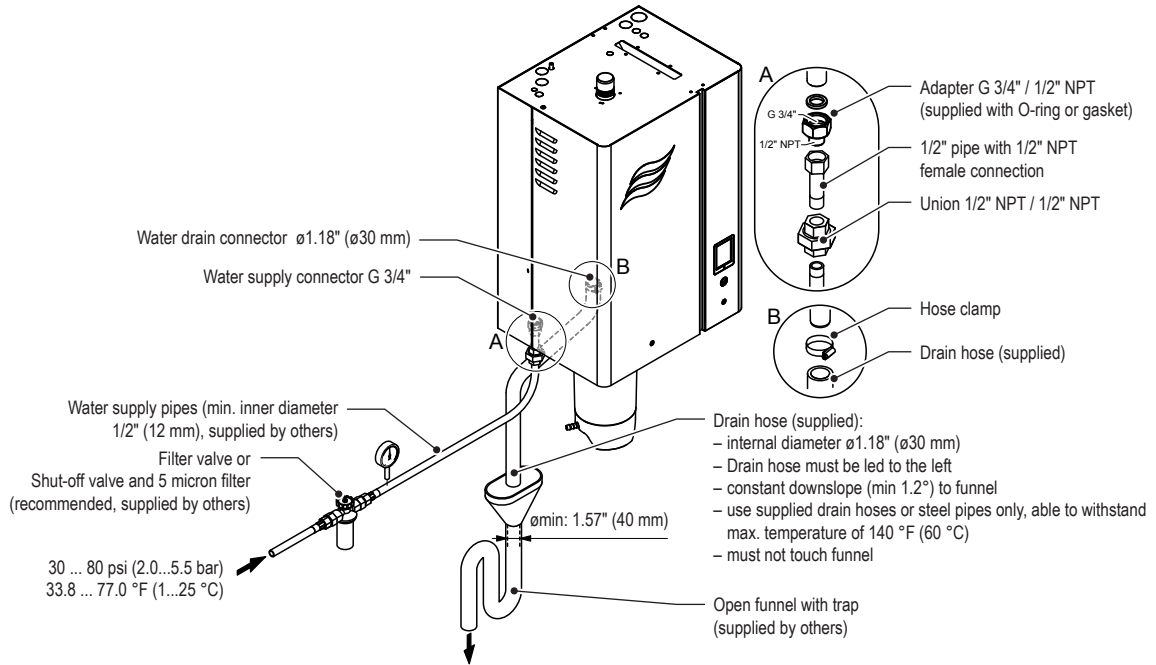
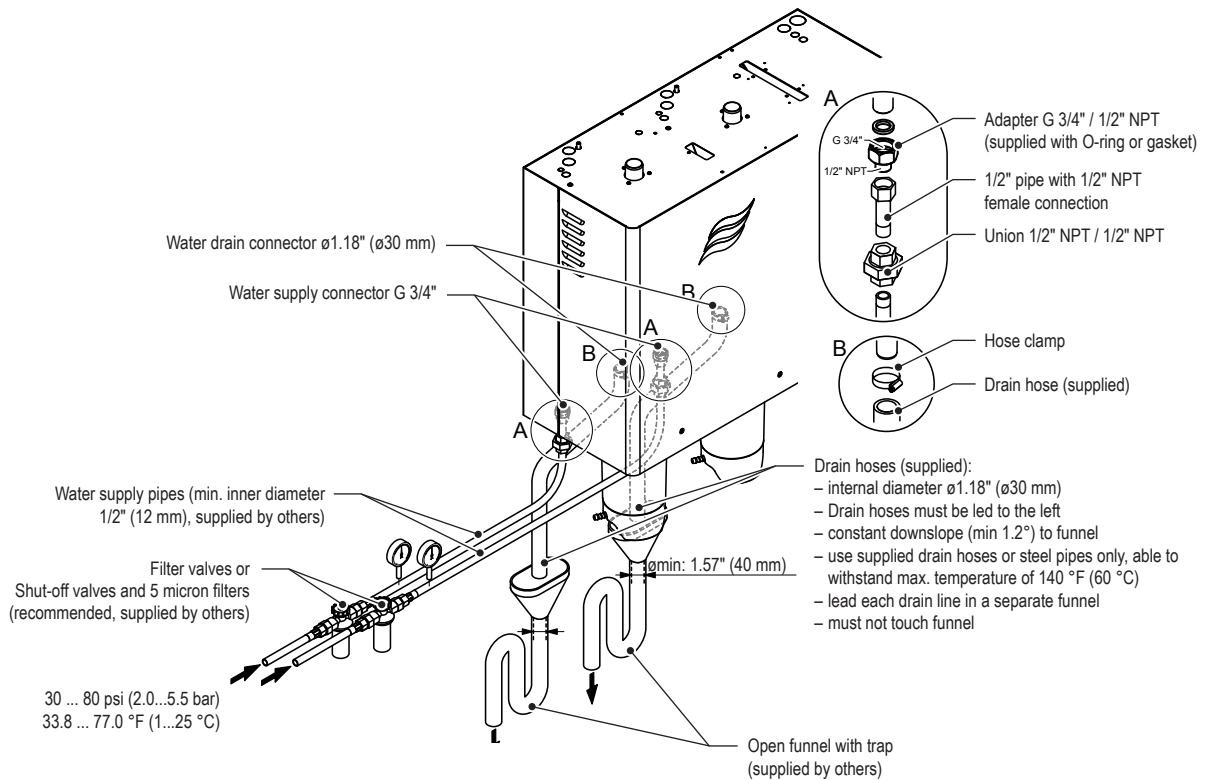
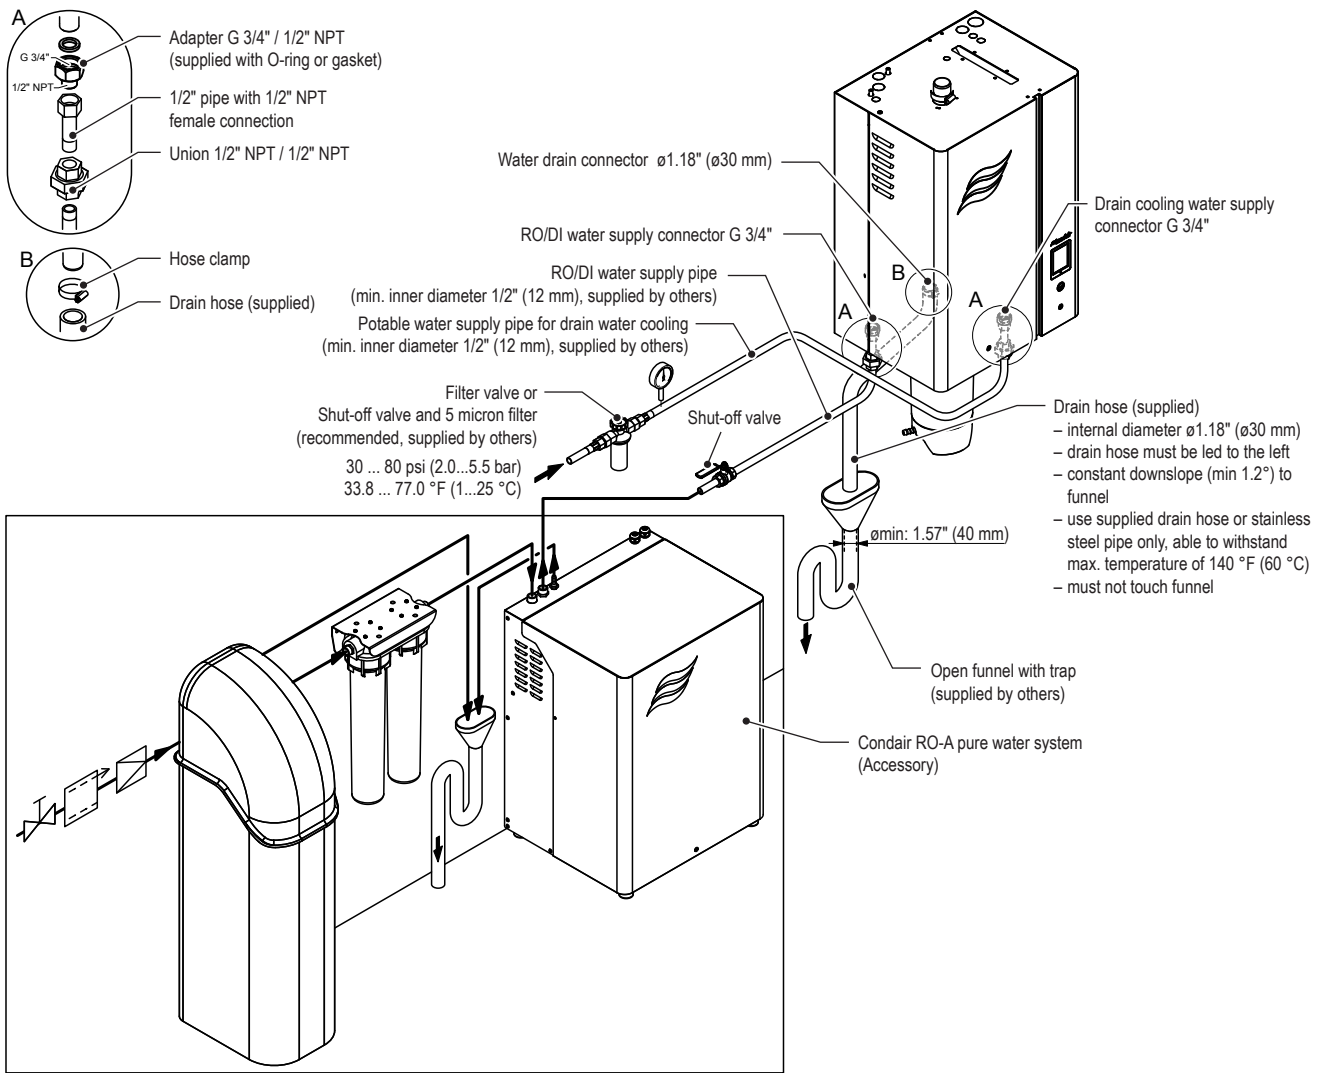
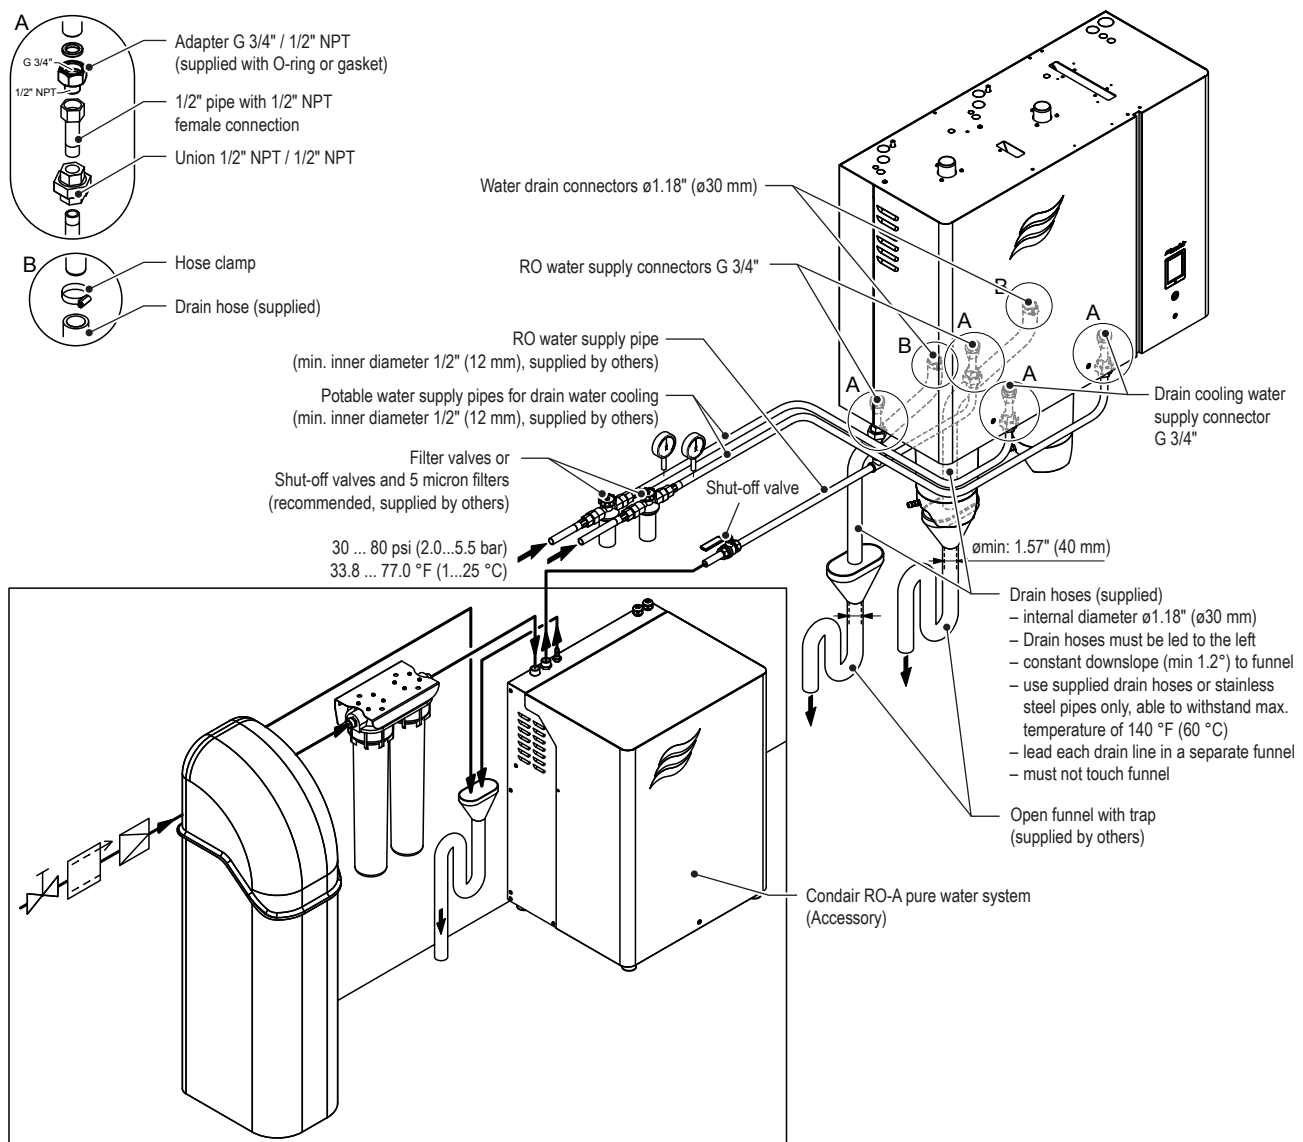

Fig. 17: Overview water installation for single units Small and Medium
Fig. 18: Overview water installation for single units Large
Fig. 19: Overview water installation for single units Small and Medium (with RS-RO option installed)
Fig. 20: Overview water installation for single units Large (with RS-RO option installed)
The water supply is to be carried out according to Fig. 17 and Fig. 18 or Fig. 19 and Fig. 20 and the applicable local regulations for water installations. The indicated connection specifications must be observed.
With the RS-RO option installed the water supply and the drain cooling water supply are to be carried out according to Fig. 19 and Fig. 20 and the applicable local regulations for water installations. The indicated connection specifications must be observed.
- The RO water supply must be connected to the inlet connector(s) according to Fig. 19 and Fig. 20. Use only installation material that is approved for RO or DI water to connect the RO-A pure water system to the Nortec RS. All water supply requirements outlined in Section 5.6.3.1 must also be adhered to with the RO or DI water supply.
The separate drain cooling water supply must be connected to the optional drain water cooling inlet valve(s) provided with the RS-RO option according to Fig. 19 and Fig. 20. Please observe the following notes regarding the drain cooling water supply installation.
- Always lead the supplied drain hose from the connector to the left down to the funnel (see Fig. 17).
On large units with two steam cylinders each drain line must be led into a separate funnel with trap (see Fig. 18).
- Has RO water supply been connected to the water inlet connector according to Fig. 19 and Fig. 20 and has installation material been used approved for use with RO water?